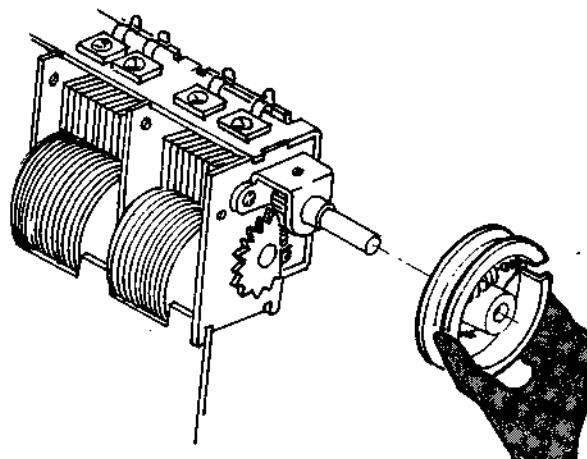

Fig. 2-9 Drive Drum Installation
- (d) Tie the cord and hook the spring to each hole of the drum, then attach the drum to the shaft of the tuning capacitor as shown in Fig. 2-9 and 2-10.